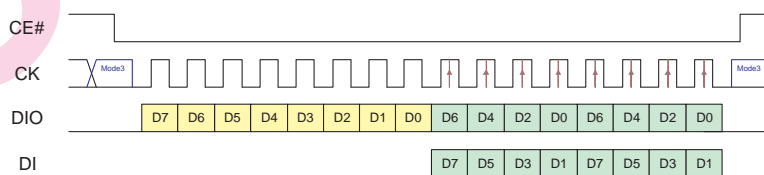

Figure 45: SPI Flash 2 Bits R/W Timing
- Figure 45: SPI type flash read/write timing with 2 bits IO mode